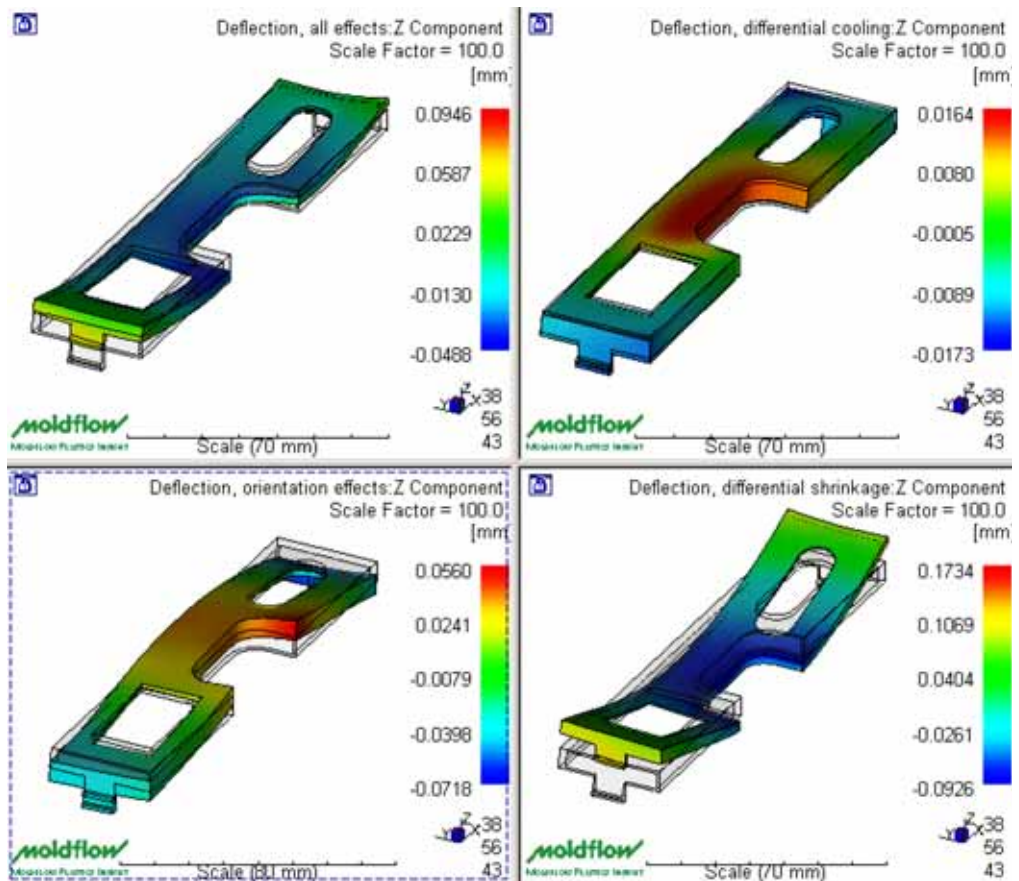

Figure 12: Warp deflection results in a split window display
3. Display the following results, beginning in the top-left window and working in a clockwise direction, as indicated in Figure 12:
- The plot should look similar to Figure 12.